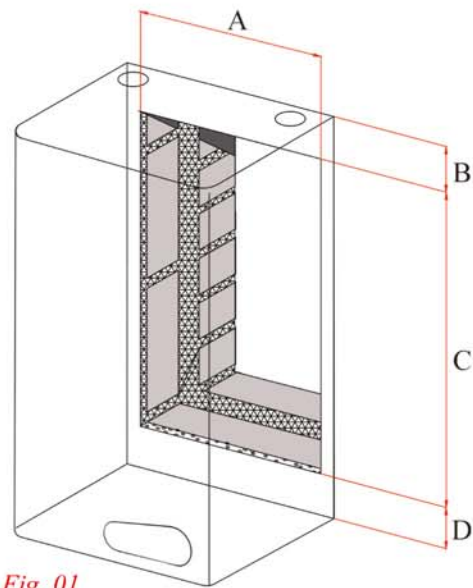

Fig. 01
1. CUT A HOLE IN THE WALL (Fig. 01)